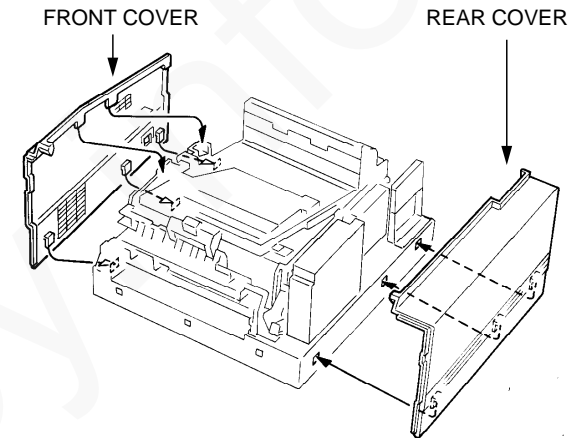

Figure 1. Front/Rear covers
11. Remove the front and rear covers (figure 1).